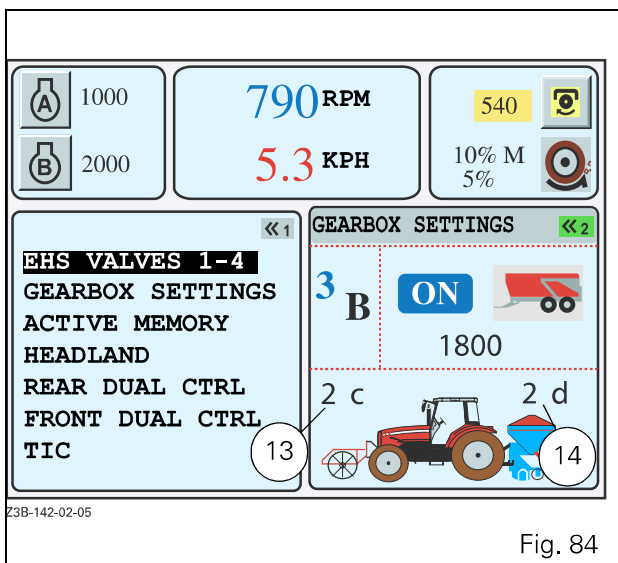

Fig. 84
- Validate by pressing the encoder or the key «2. The window (Fig. 84) is displayed.